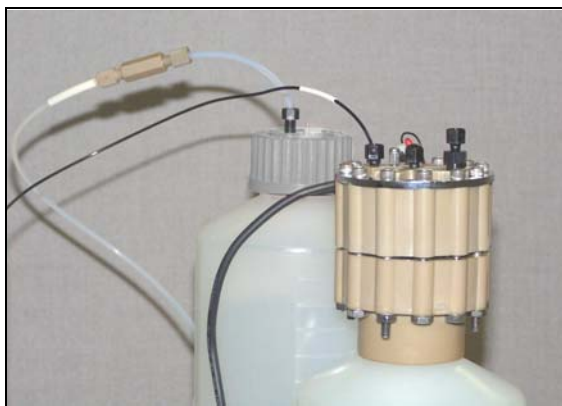

Figure 44. Dionex EGC Inlet Port Connections
5. Connect **EGC IN** to the **EGC INLET** port (see Figure 44).